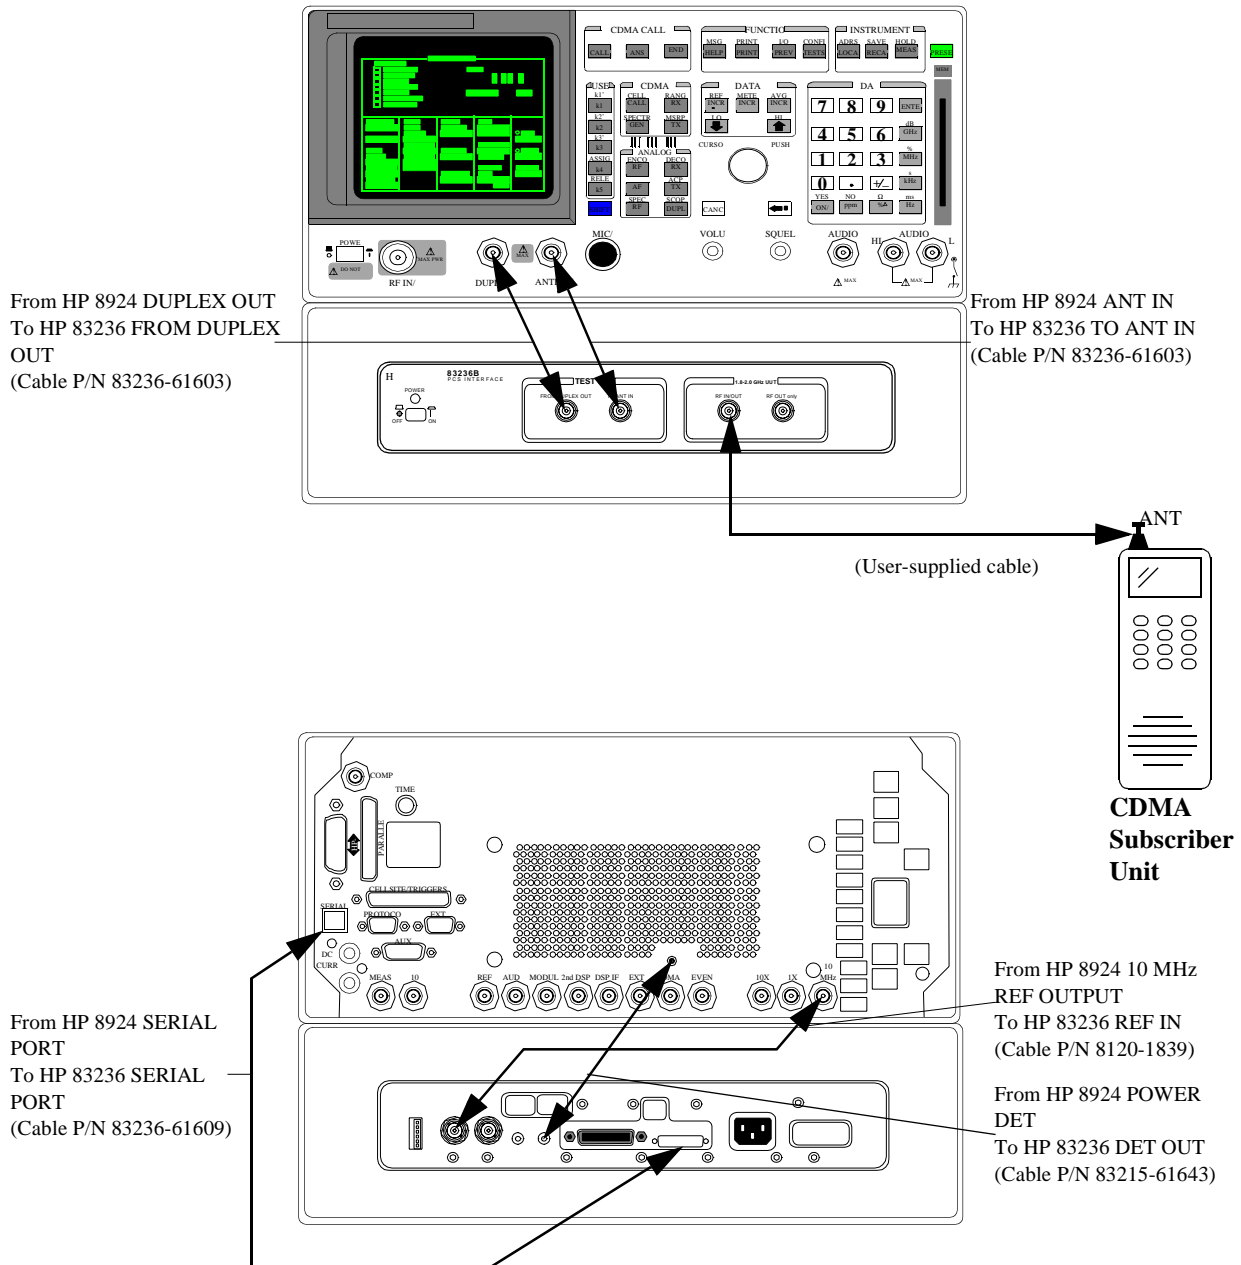

Figure 5 Connection diagrams for the HP 8924C Test Configuration (CDMA Subscriber Unit Tests; Serial Control)
- 2 Make the front and rear panel connections shown in figure 5.